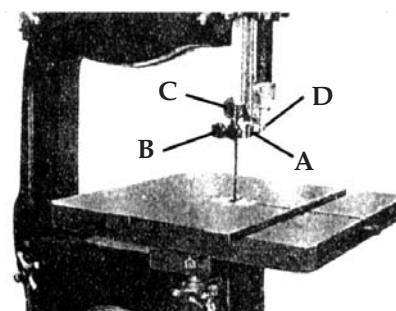
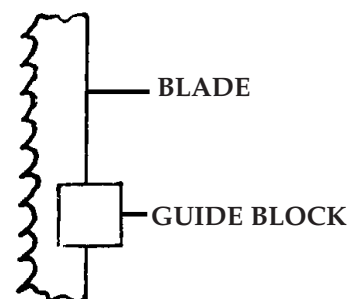

FIGURE 11
FIGURE 12
- Upper blade guides:** The upper blade guides are held in place by two set screws (B-Fig.11). The blocks should be very close to each side of the blade but not too much as to pinch it. Adjust then tighten the set screws. The blocks should sit back far enough so that the teeth of the blade are out in front of the blocks, this is illustrated in Fig.12. To make this adjustment, loosen bolt A in Fig.11 and slide the bracket holding the blocks, back and forth. The bearing should be adjusted so that it sits 1/16" (approx.) from the back of the blade. Its purpose is to prevent the blade from being pushed back too far into the guide blocks. To adjust, loosen the bolt on the side of the blade guard assembly (D-Fig.11), adjust and retighten bolt.